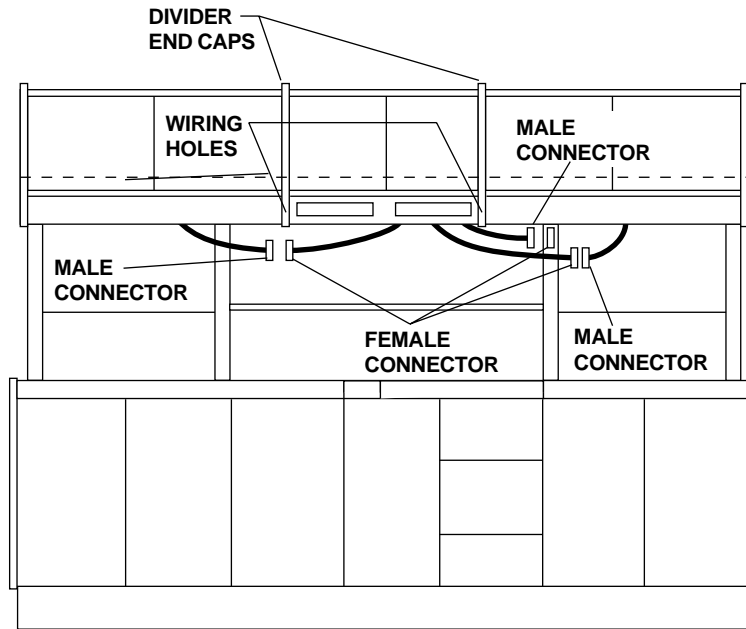

FIGURE 19
1. Route the wiring through the holes in the divider end caps (see Figure 19 on page 7, the wiring is shown outside of the end caps for clarity). Connect the treatment console wiring as shown.